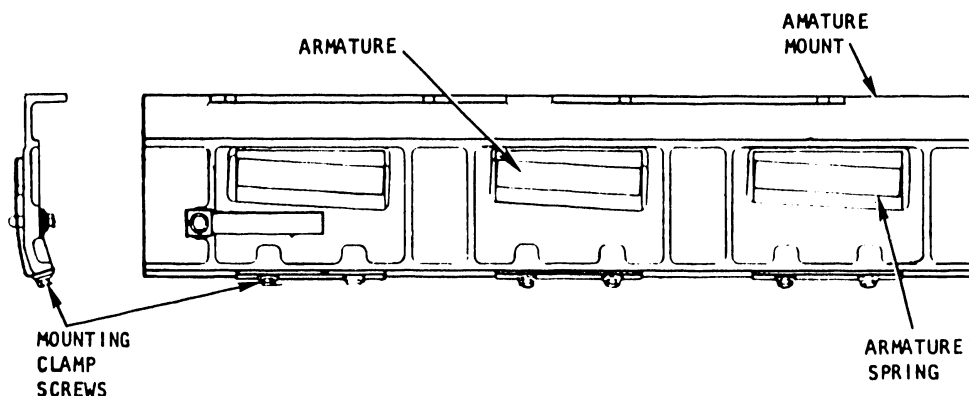

Figure 3-20. 300 LPM Paper Clamp Armature Assembly
3.4.10 300 LPM Paper Clamp Armature Removal/Replacement (Figure 3-20)
- b. Using a number 2 Phillips screwdriver, remove the two (2) screws that secure the mounting clamp and the Armature Spring Assembly to the armature mount. Repeat the procedure for each of the other armature spring assemblies if necessary. See **figure 3-20**.